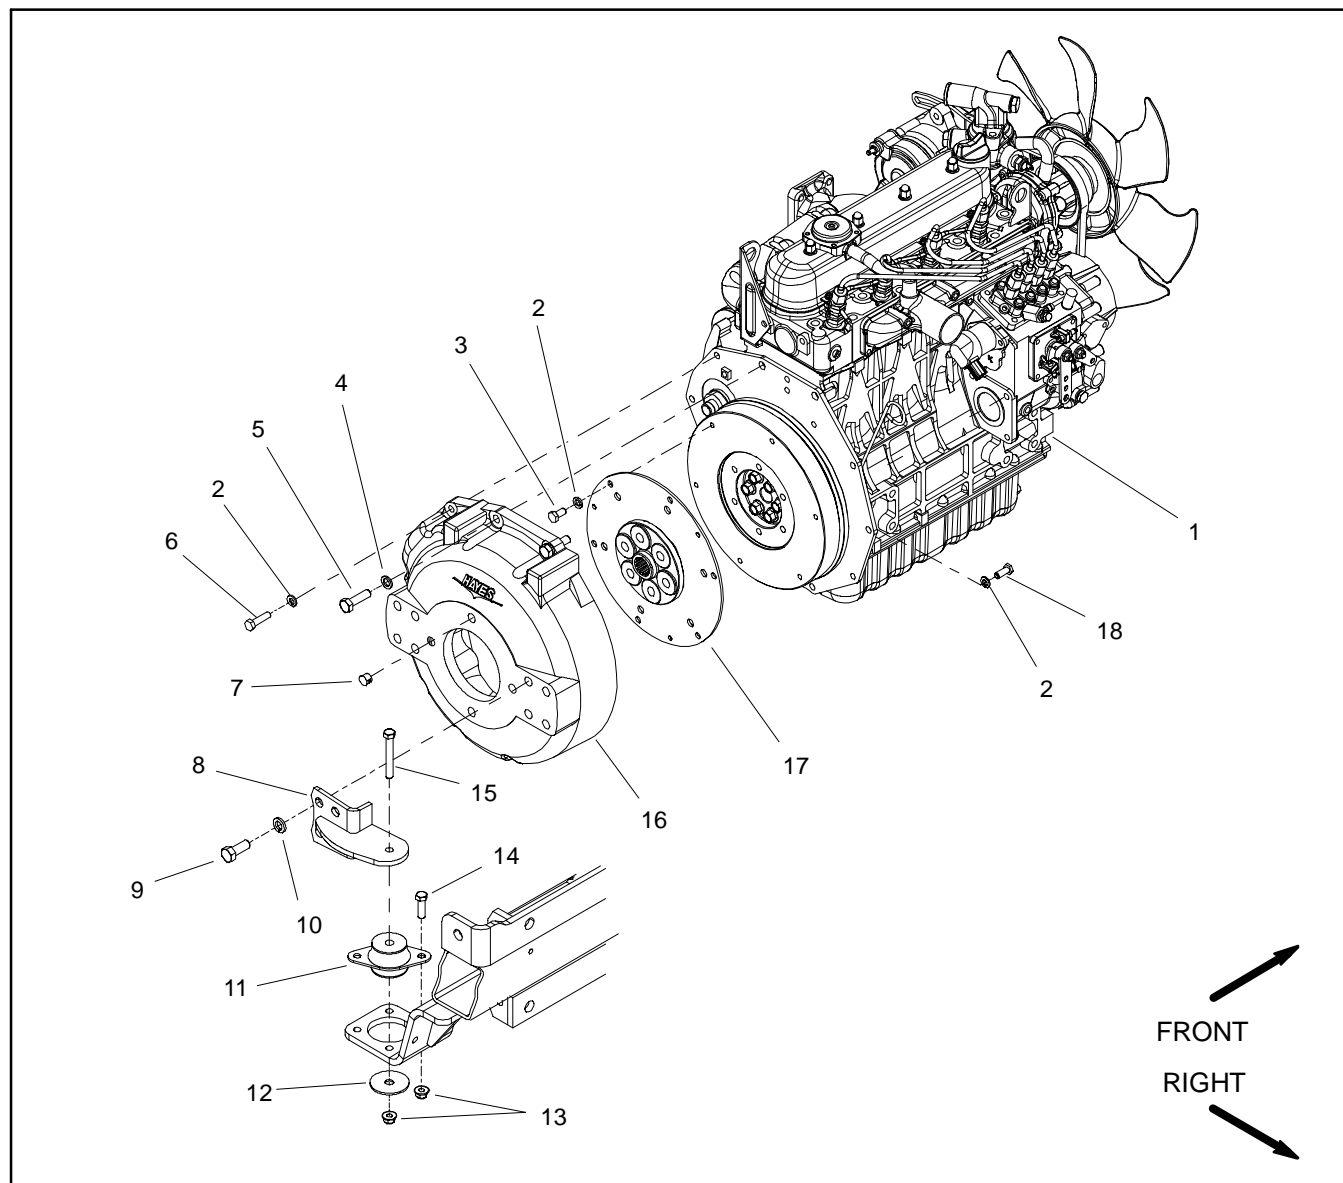

Figure 17
Coupler Removal (Fig. 17)
2. Remove flywheel housing and spring coupler from engine using Figure 17 as a guide.
3. If necessary, remove rear mount brackets (item 8) from flywheel housing.
Coupler Installation (Fig. 17)